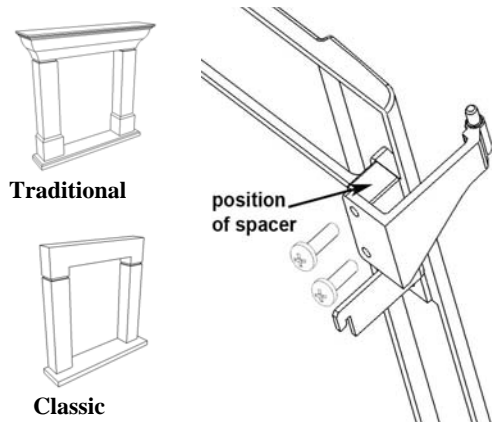

Fig 13, Hinge location for Traditional and Classic stone mantels (1 spacer)
- use one spacer for each hinge bracket when securing to removable cast frame (fig 13);